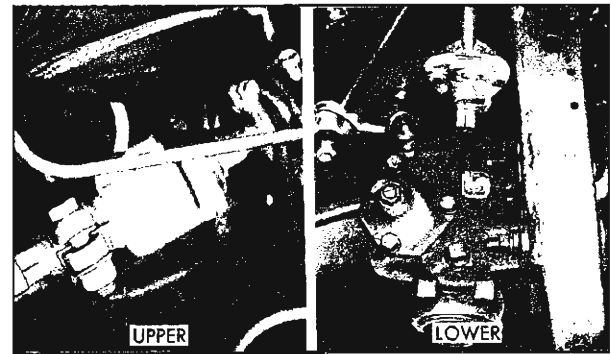

Fig. 5—Steering Shaft Alignment Points
1. Install new intermediate steering shaft and lower coupling assembly by connecting lower coupling to wormshaft with the cast pointer on the coupling aligned with the mark on the wormshaft (fig. 5). Secure coupling by installing special clamp bolt. Tighten clamp bolt to 20-25 ft. lbs. using a 7/16" - 12 point socket.
2. Complete installation by engaging upper end of intermediate shaft to the upper coupling. The split in the upper coupling clamp must be aligned to the mark on the upper end of the intermediate shaft to maintain steering wheel centering with steering gear hi-point. See Figure 5. Secure attachment by tightening the upper coupling clamp